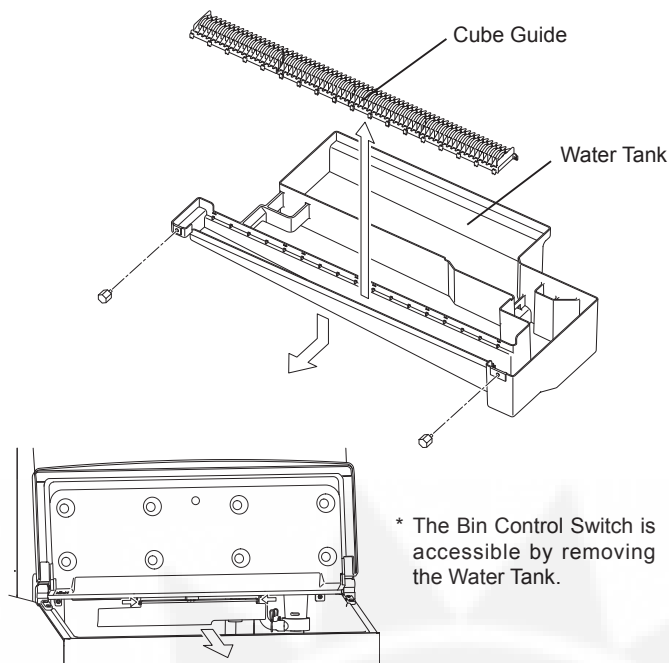

Fig. 7
- 15) Pull the Cube Guides (quantity varies depending on model) upward to remove them from the Water Tank. They are snapped in place. See Fig. 7.
- 17) Wash the Bin Control Switch, Water Tank, Float Switch, Cube Guide and Overflow Pipe by using a nylon scouring pad, brushes and the cleaning solution. In addition to the removed parts, also wash the bin liner and Bracket (L) (R) with the solution.